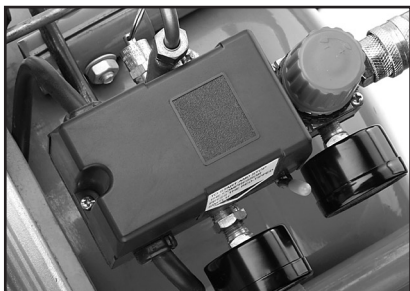

Figure 19. Pressure switch cover.
4. Remove the black AUTO/OFF switch cover (**Figure 19**) by removing the screw in the recess of the cover. Pull the black cover up and set it aside.